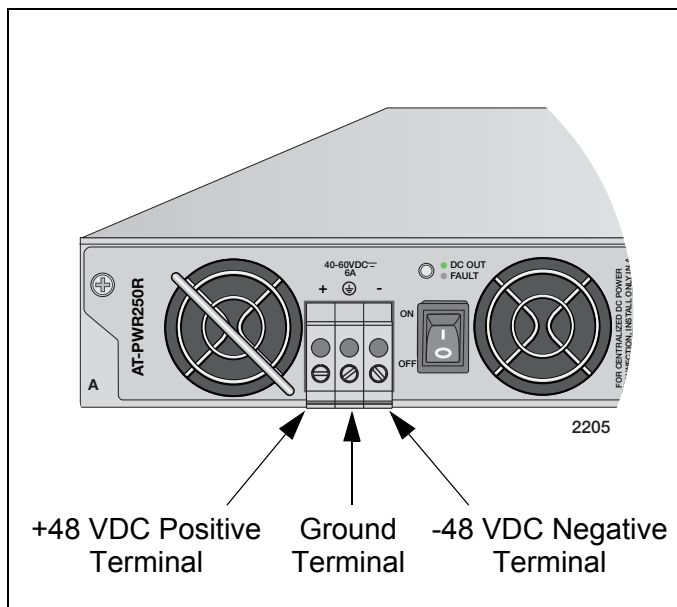

Figure 32. DC Terminal Block on the DC AT-PWR250R-80 Power Supply Module
3. Use the legend above the terminal block to identify the terminals. The terminals are **positive**, **power supply ground** and **negative**, from left to right, as shown in Figure 32 on page 70.